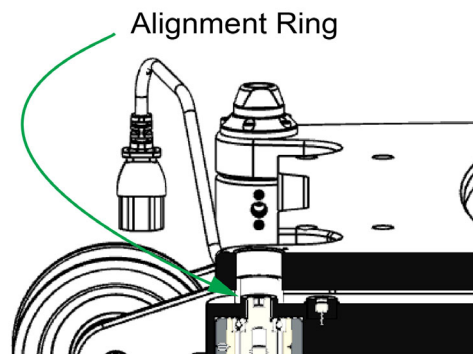

Figure 26 - Alignment Ring Location in Dolly Base
2. Insert both rings into the passive and drive arm boss features, as shown in **Figure 26**.